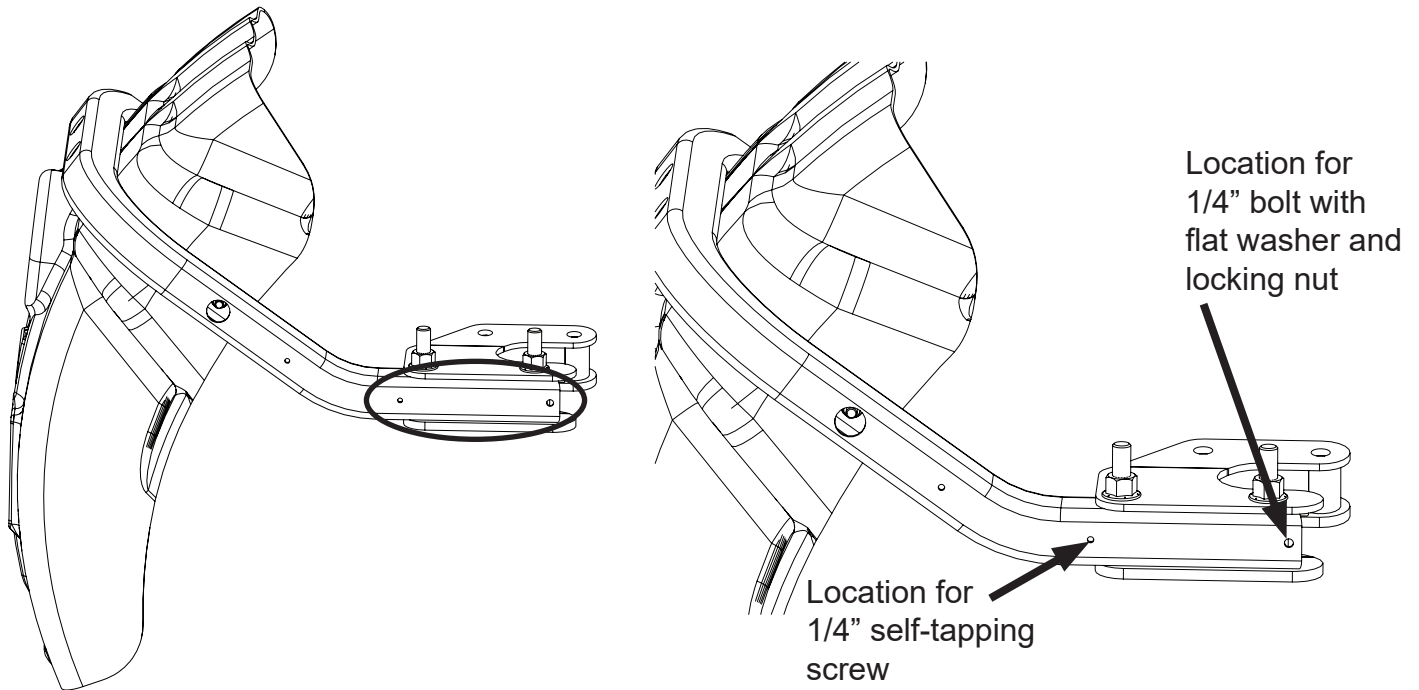

Figure 5
9. Fasten wire using one 1/4" self-tapping screw (PN 1146308) and one 1/4" bolt with flat washer and locking nut (Figure 5). **NOTE:** Install the 1/4" bolt, washer, nut with the nut facing toward the inside (center) of the truck.